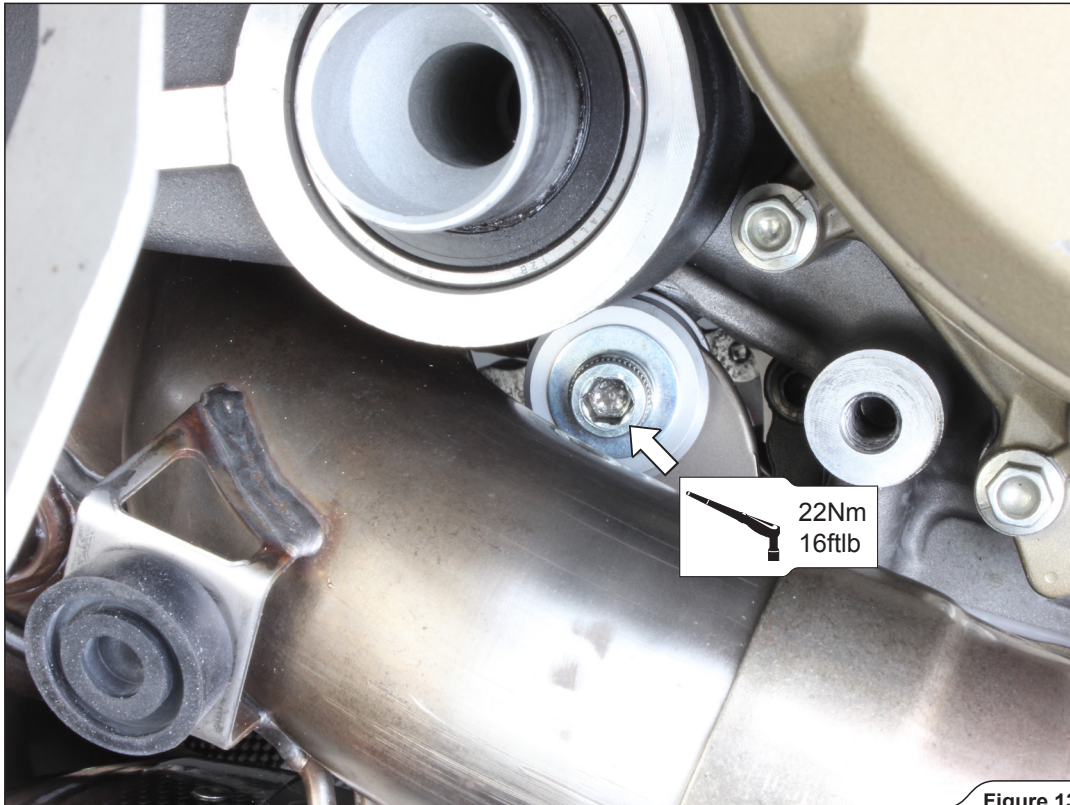

Figure 13
- Align the mufflers in respect to the motorcycle and tighten the mufflers' bracket bolts to the specified torques (Figure 13, 14).